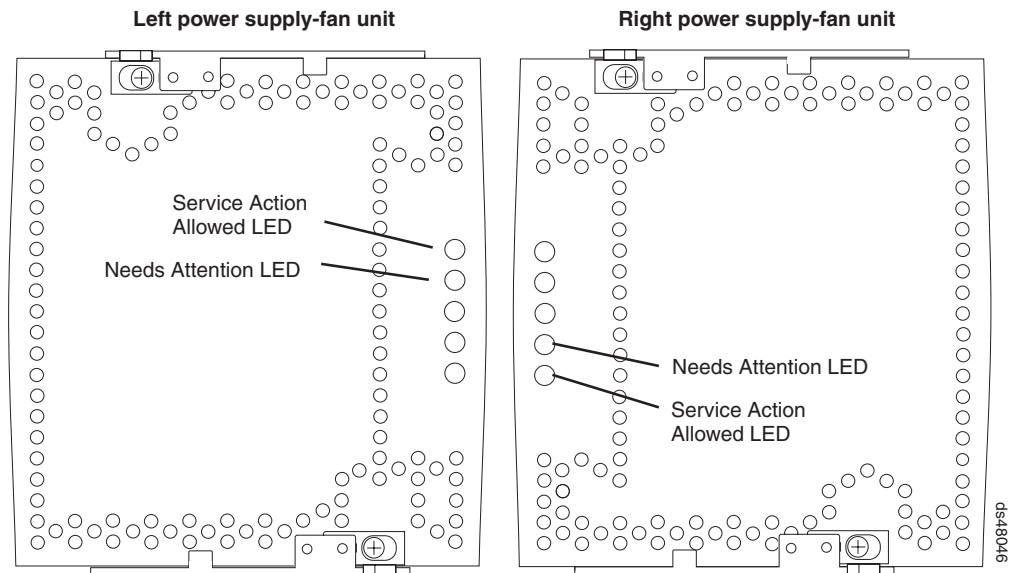

Figure 80. Power supply and fan unit Needs Attention LEDs
5. Check the Needs Attention LED on each power supply and fan unit. (Figure 80 on page 135 shows the left power supply and fan unit Service Action Allowed LED is the top, or first, LED, and the Needs Attention LED is the second LED. On the right power supply and fan unit the Service Action Allowed LED is the bottom, or fifth LED, and the Needs Attention LED is the next, or fourth, LED.)